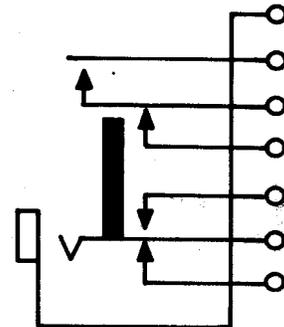

Fig. 12—327C Jack
**2.12 327C:** This single-mounted jack (Fig. 12) is used with the 347 plug. The 327C jack is heavily insulated.